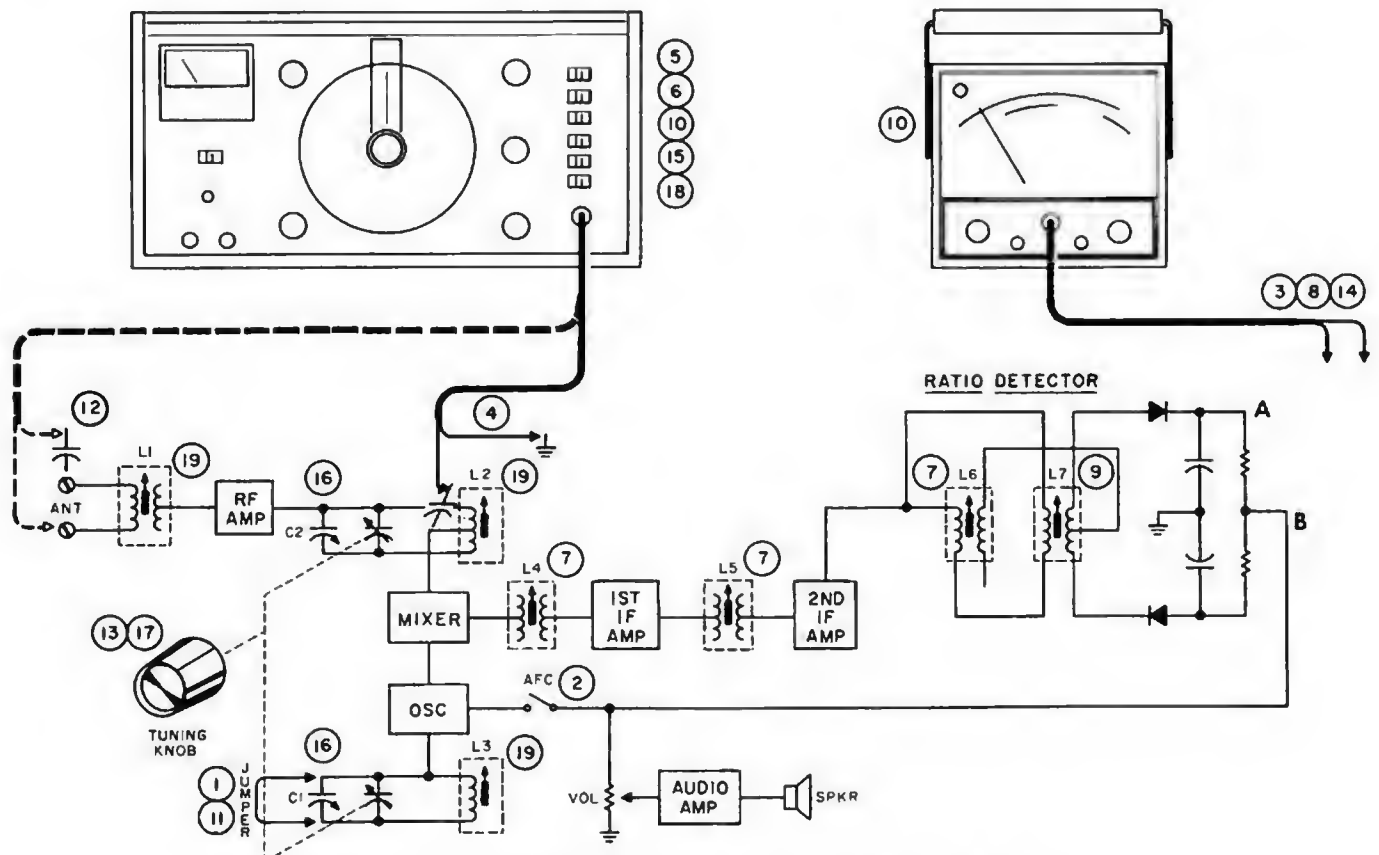

Figure 6. Typical FM Broadcast Band Receiver Adjustment
(Refer to Figure 6)
7. Beginning with the primary coil of the ratio detector (or discriminator) and progressing toward the antenna, align each i-f coil for maximum meter reading on the VTVM (in figure 6, adjust L6, L5, and L4 in that order). Reduce the signal generator output level as required to maintain a small meter reading. REPEAT THE ADJUSTMENTS UNTIL NO FURTHER IMPROVEMENT CAN BE OBTAINED.